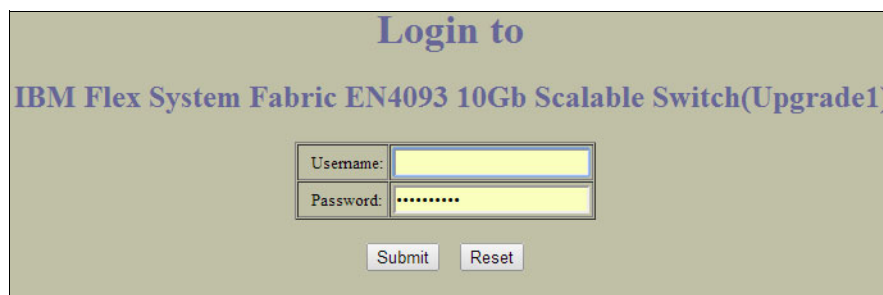

Figure 2-14 EN4093 login
3. In the switch Login to window, enter the login credentials, as shown in Figure 2-14.